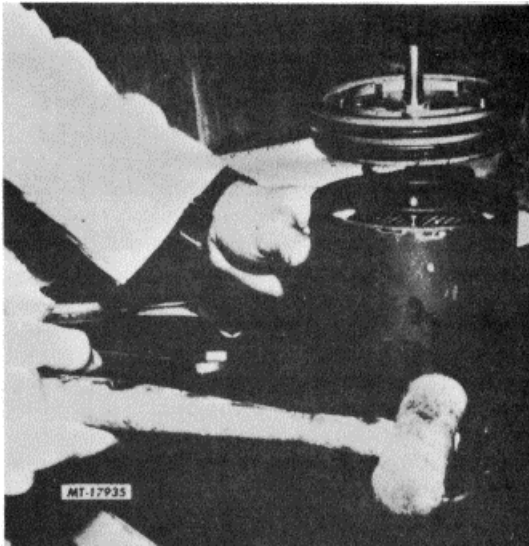

Fig. 16
9. Using the lock nut draw the assembly together to approximately half of spring's free height. While slowly turning the cartridge, tap the side of the shell with a plastic mallet (Fig. 16). This allows the desiccant's material to settle properly into place. Continue to tighten the nut making sure all items are properly aligned. Tighten nut firmly using an 11/16" socket or box wrench.